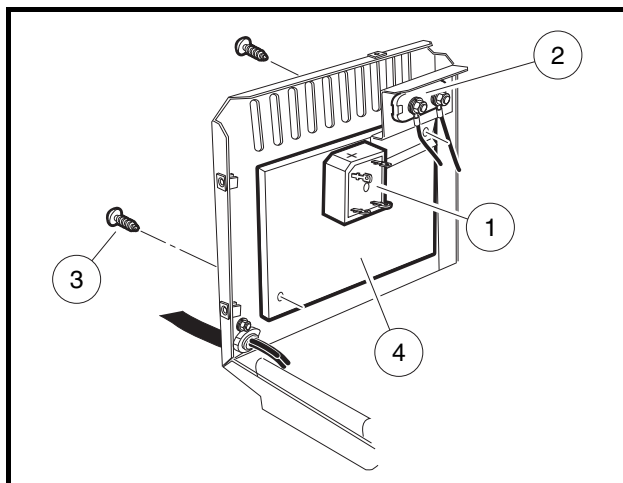

Figure 6-24 Rectifier/Heatsink Assembly
3. Remove all four wires from the rectifier (1) (**Figure 6-24, Page 6-28**).
4. Gently press the fuse link (2) toward the transformer to remove it from its mounting tab.
5. Remove the screws (3) securing the rectifier/heatsink assembly (4) to the charger case.
1. Place the rectifier/heatsink assembly (4) against the charger case and secure with the screws (3) (**Figure 6-24, Page 6-28**).